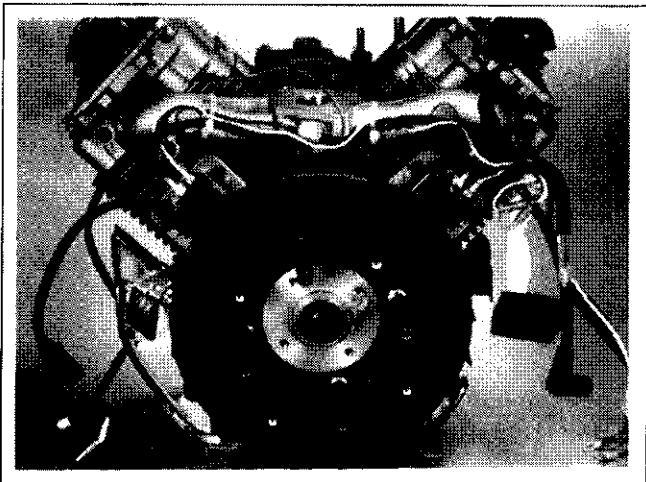

**Figure 11-46. Tighten Intake Manifold to Specified Torque.**
1. Install intake manifold and new intake manifold gaskets to the cylinder heads using four hex. flange screws. Torque hex. flange screws to **9.9 N·m (88 in. lb.)**. See Figure 11-46.
1. Install the starter cover, starter motor and spacers using the two hex. flange screws (see Figure 11-46). Make sure that spacers are installed between the starter motor and the crankcase.